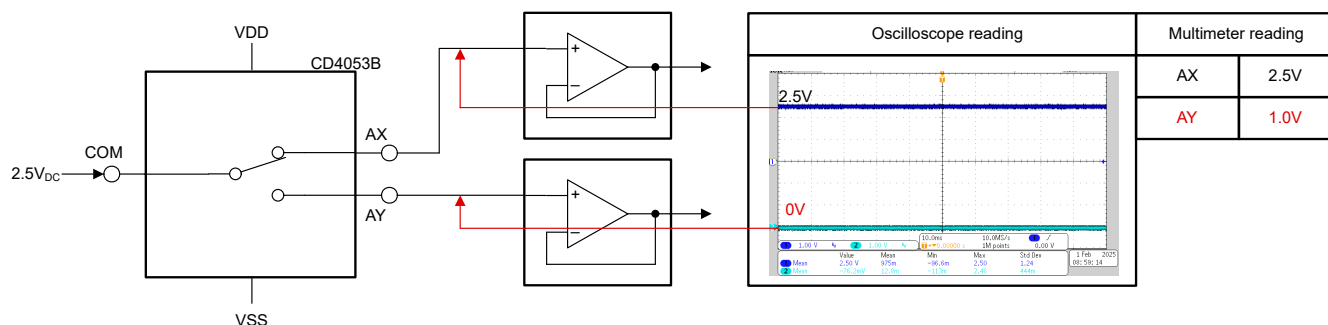
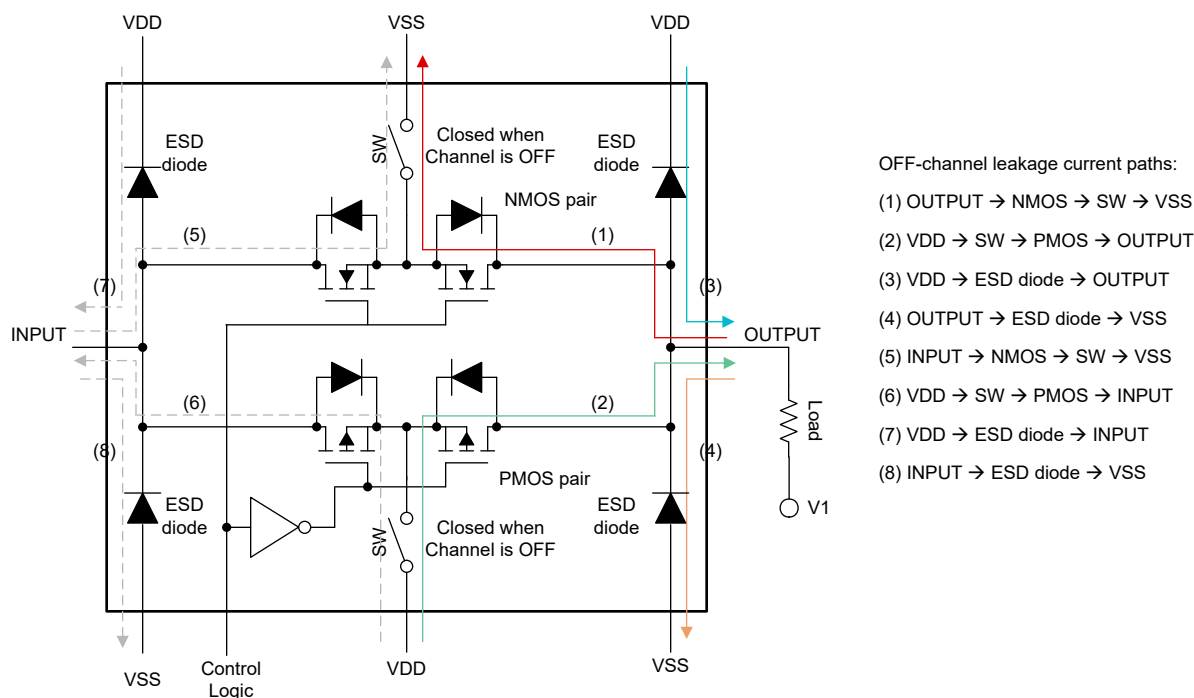

Figure 1-5. Voltage Reading Issue at Demux OFF-channel Output
Figure 2-4. OFF-channel Leakage Current Paths
Besides, test equipment can fail to measure such voltage if not set up correctly. Figure 1-5 shows a common voltage reading issue. In this case, both multimeter and oscilloscope are used to measure the OFF-channel output voltage. The reading of the multimeter is around 1V, while that of the oscilloscope is almost 0V. This is confusing to know which measurement is correct. Actually, the cause of different readings lies in the different input resistance of these two instruments. Detailed measurement considerations is given in Section 4.1.
Assume the input is DC voltage, which is the example in Figure 1-5. Since both OFF-state transistors and ESD diode are not really OFF, there is a small amount of leakage current flowing through transistors and diodes to the output load. The OFF-channel leakage current paths are shown as in Figure 2-4.
The OFF-state resistance of NMOS provides paths (1)(2) for leakage current to flow from input to output. Other leakage current in paths (3)(4)(5)(6) cancel each other in opposite direction like in Figure 2-4. The leakage current in paths (1)(2) runs in the same direction and cannot cancel each other. Therefore, the output leakage of this structure can be larger.